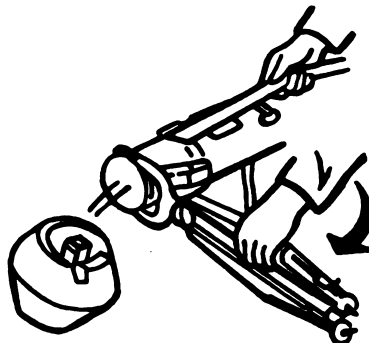

Figure 2
2. Lower bipod to the vertical lock position. Don't worry about the forward shock popping off - it's supposed to (fig. 2).